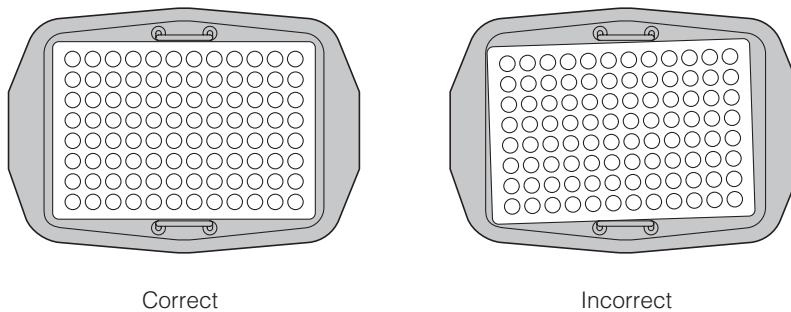

Figure 3. Correct and Incorrect Alignment of Microplates in the Bucket
- When using six stacked polystyrene microplates, make sure that the plates are aligned parallel to the bucket edge, as shown in Figure 3, before placing a cover on the bucket.